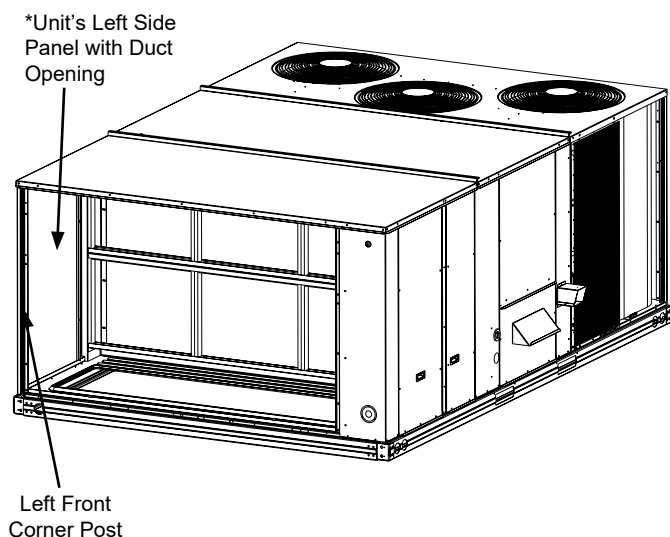

Fig. 10 - Remove Unit Corner Post and Side Panel
4. Remove the unit's left side corner post and left side panel from the unit to allow for easy economizer installation. (**See Fig. 10.**)